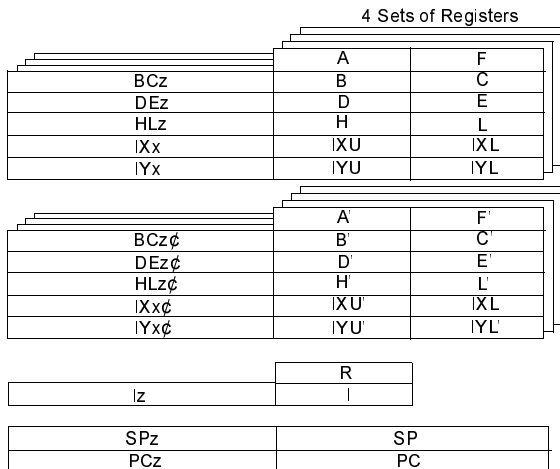

Figure 4. Register File Organization
The CPU register space is depicted in Figure 4 and consists of all of the registers in the CPU register file. These CPU registers are used for data and address manipulation, and are an extension of the Z80 CPU register set, with four sets of this extended Z80 CPU register set present in the 380C. Access to these registers is specified in the instruction, with the active register set selected by bits in the Select Register (SR) in the CPU control register space.